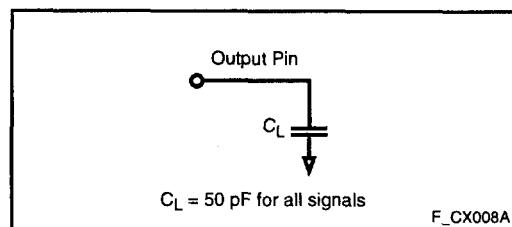
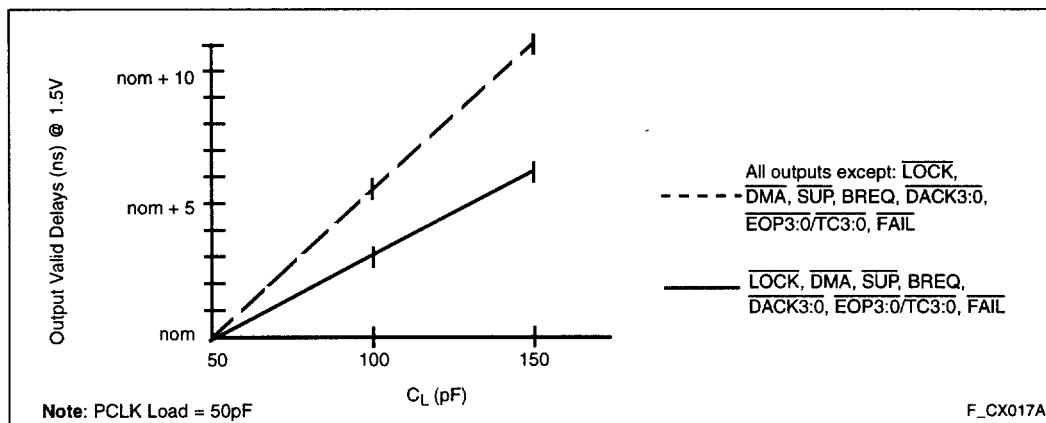

Figure 7. AC Test Load
Figure 16. Output Delay or Hold vs. Load Capacitance
2. See Figure 16 for capacitive derating information for output delays and hold times.
The AC Specifications in Section 4.5 are tested with the 50 pF load shown in Figure 7. Figure 16 shows how timings vary with load capacitance.